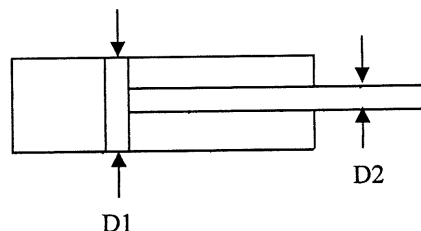

Figure 1
- c) Complete the table 1 by calculating extend and retract forces, if diameters D1 is 1.5 inch and D2 is 0.625 inch. Please refer to figure 1 and your calculations for each extend and retract forces should be shown.